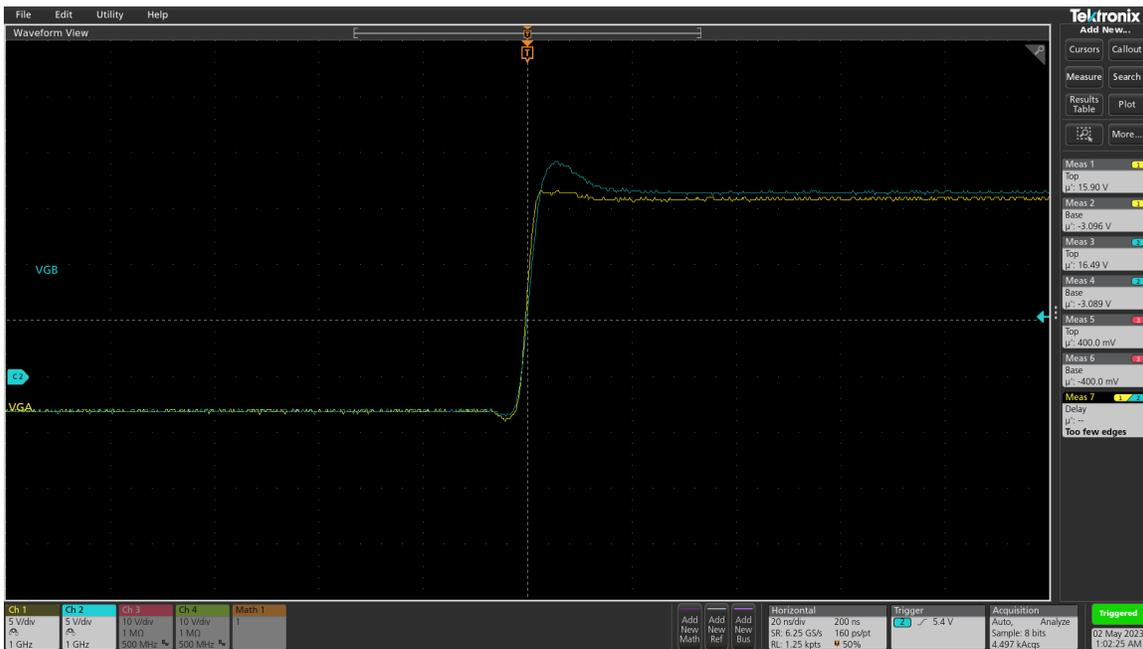

Figure 3-6. Overlap Mode
- Overlap Mode:** Overlap mode disables the deadtime circuitry to allow the outputs to overlap. To select this mode, shunt jumper J5 to VCC-DT. An example of overlap mode is depicted in Figure 3-6.